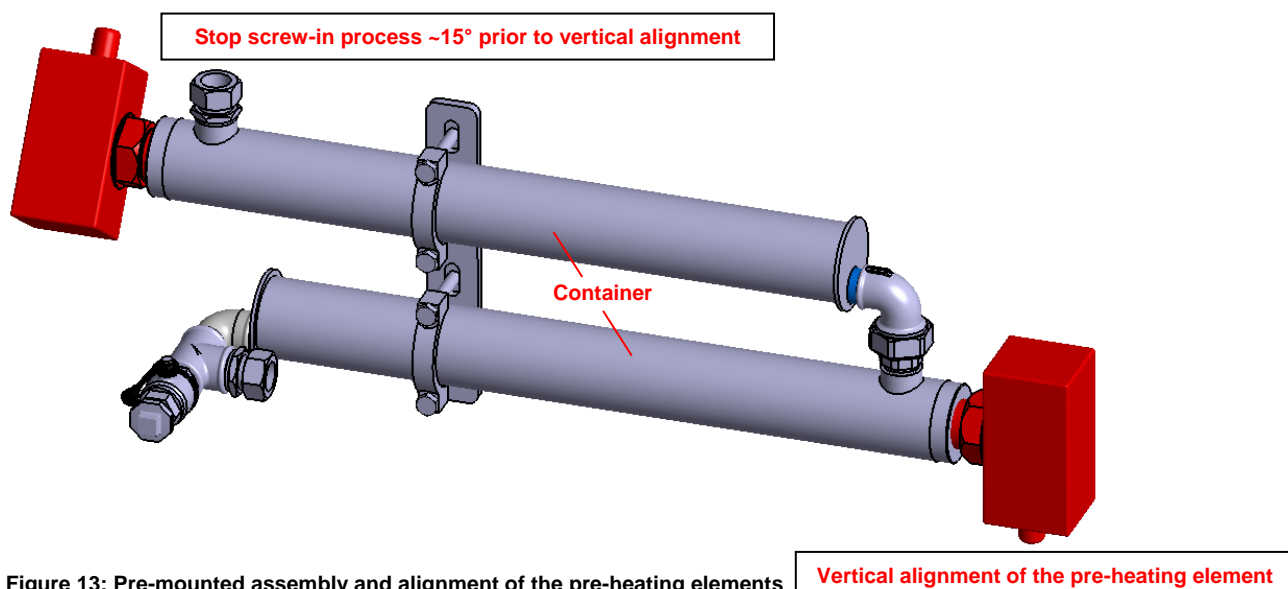

Figure 13: Pre-mounted assembly and alignment of the pre-heating elements
- The 1st pre-heating element in Figure 13, right must be aligned vertically
- The screw-in process of the 2nd pre-heating element (Figure 13, left) must be stopped ~15° prior to vertical alignment to avoid collision with engine frame